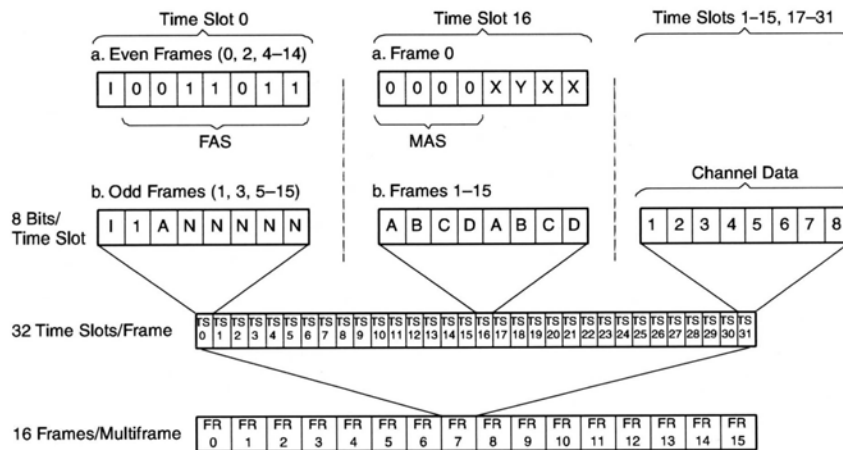

Fig. 1-2 ITU-T E1 Frame Structure
In Extended Superframe Format (ESF) Figure 1-2, and Table 1-2, the multiframe structure is extended to 24 frames. The channel structure is identical to D4 (SF) format. Robbed-bit signaling is accommodated in frame 6 (A-bit), frame 12 (B-bit), frame 18 (C-bit), and frame 24 (D-bit).
Figure 1-2 shows the ITU-T 2.048 Mbps recommendation, which most of the world outside North America uses for PCM transmission.